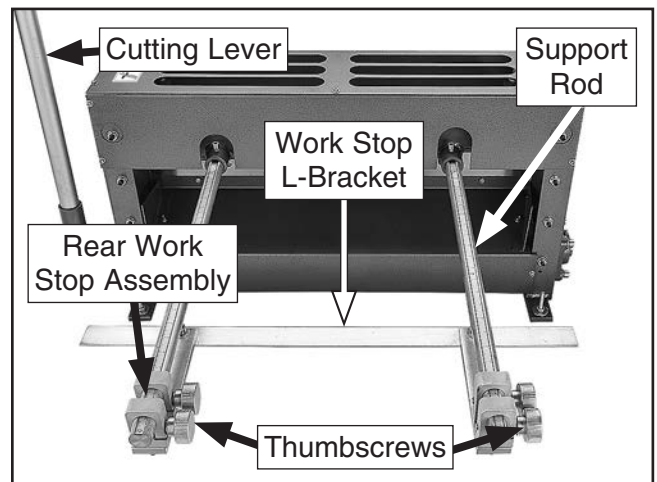

Figure 5. Work stop adjustment assembly installed.
3. Slide work stop adjustment assembly onto support rods, as shown in **Figure 5**, with flat side of L-bracket closest to shear. Tighten (4) knurled thumbscrews.